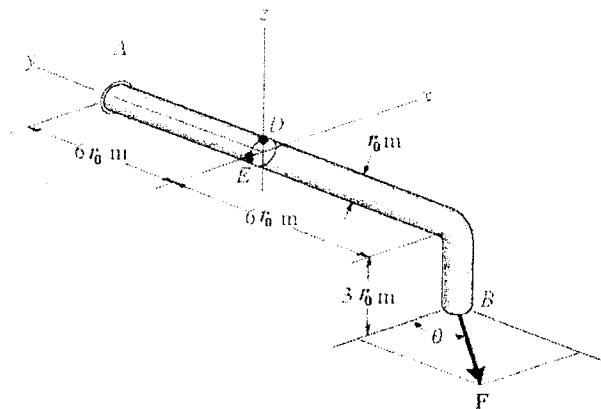

Fig. 4
- As shown in Fig. 4, a circular shaft is fixed in the wall at A and a force F is applied at the end B . For $\theta = 90^\circ$ and $\theta = 0^\circ$, (a) determine the stress components (σ_{yy} , τ_{yx} , τ_{yz}) at points D and E ; (b) draw a Mohr's circle to calculate the principal and maximum shear stresses at points D and E . (Points will be given **only if** using free body diagram to analyze the problem). (25%)